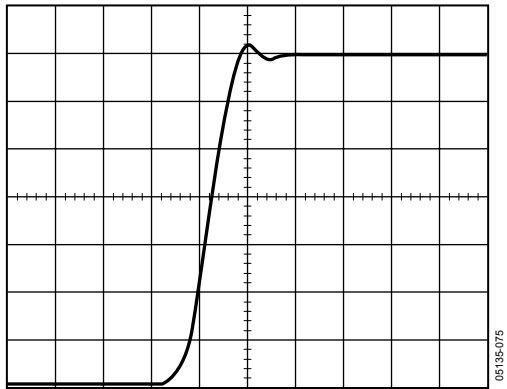
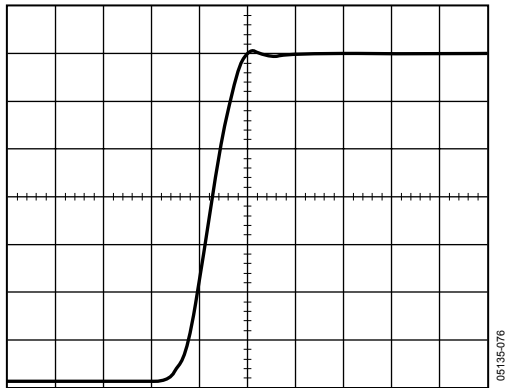
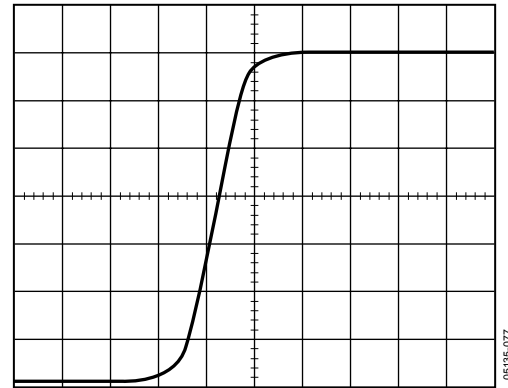

Figure 74. Input Signal to Adaptive Filter Control
Figure 75. Output Signal with Adaptive Filter Control (Mode A)
Figure 76. Output Signal with Adaptive Filter Control (Mode B)
Figure 74 and Figure 75 show how a typical signal is processed by the adaptive filter control block in Mode A.
The register settings in Table 35 were used to obtain the results shown in Figure 75, i.e., to remove the ringing on the Y signal. Input data was generated by an external signal source.
**Table 35. Register Settings for Figure 75**
When changing the adaptive filter mode to Mode B [Address 0x15, Bit 6], the output shown in Figure 76 can be obtained from the input signal shown in Figure 74.